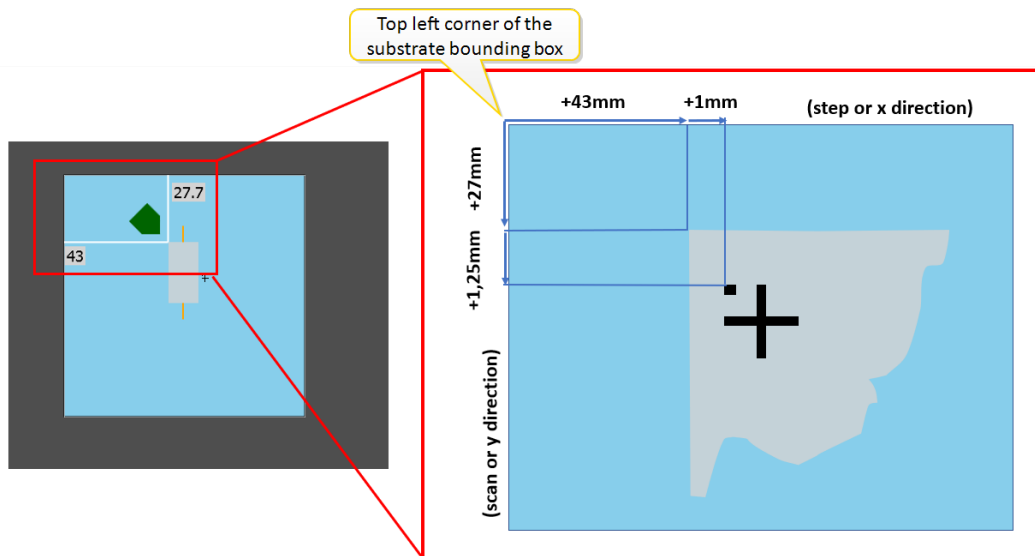

Figure 3-102 Project position (l) and marker position (r)
2. Calculate the expected marker Step (X) and Scan (Y) positions with reference to the top left of the substrate bounding box, see **Figure 3-102 below**.